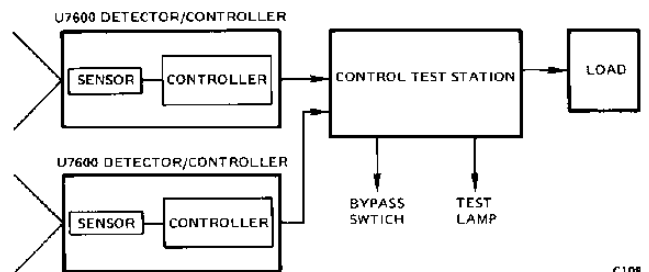
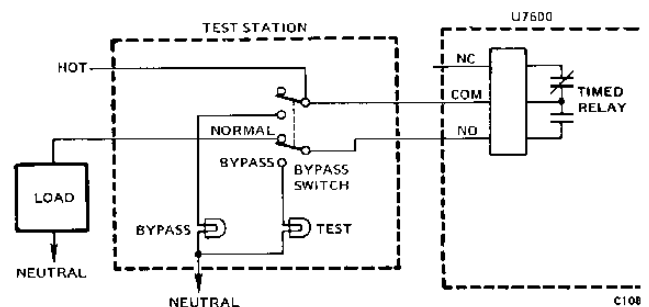

Figure 13—Block Diagram - Normally De-energized Load.
Figure 14—Typical Wiring Diagram - Normally De-energized Load.
The Normally Open (NO) contacts of the relay in the detector are used to energize the load when the detector "sees" a fire. The load could be alarm systems, bells, fire-fighting equipment, etc. When the detector "sees" a fire, the relay is energized, closing the NO contacts so that the load is energized. This application allows the user to tie many detectors in parallel and any detector can energize the load. The bypass switch at the control station allows testing the detector(s) without energizing the load. See Figure 13 for block diagram and Figure 14 for typical wiring diagram.